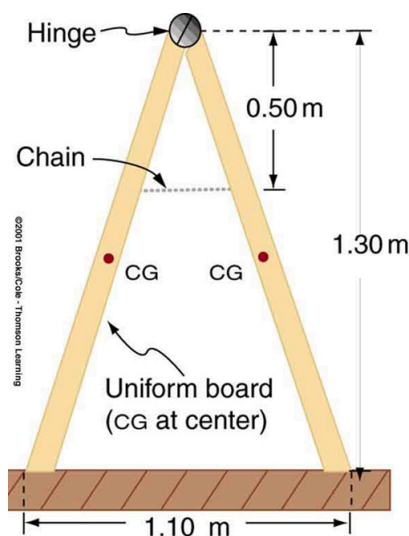

FIGURE 9.33 A sandwich board advertising sign demonstrates tension.
14. A sandwich board advertising sign is constructed as shown in Figure 9.33. The sign's mass is 8.00 kg. (a) Calculate the tension in the chain assuming no friction between the legs and the sidewalk. (b) What force is exerted by each side on the hinge?
15. (a) What minimum coefficient of friction is needed between the legs and the ground to keep the sign in Figure 9.33 in the position shown if the chain breaks? (b) What force is exerted by each side on the hinge?